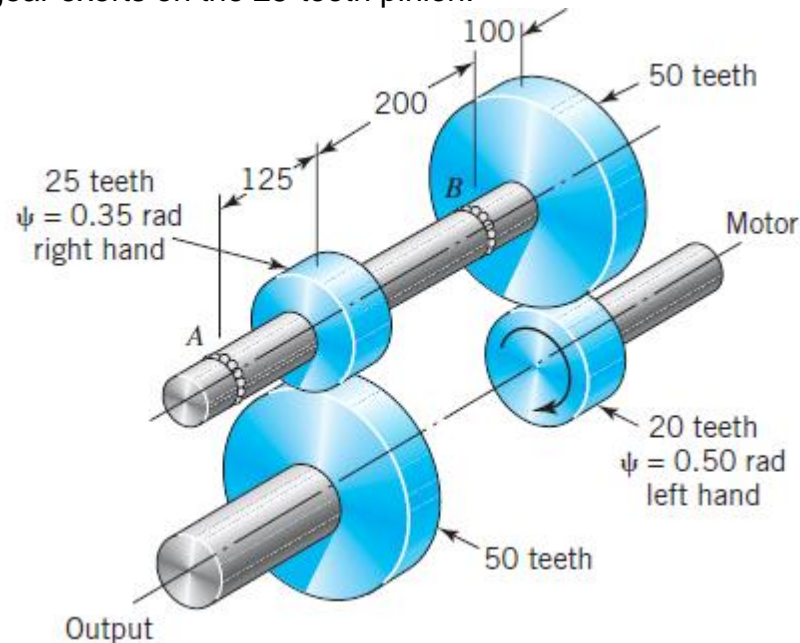

Fig.3 Helical gear assembly (ref: Fundamentals of Machine Component Design, 5th Edition, Wiley.)
3. The four helical gears shown in Fig. 3 have a module in the normal plane of 4 mm and a pressure angle in the normal plane of 0.35 rad. The motor shaft rotates 550 rpm and transmits 20 kW. Other data are on the drawing.